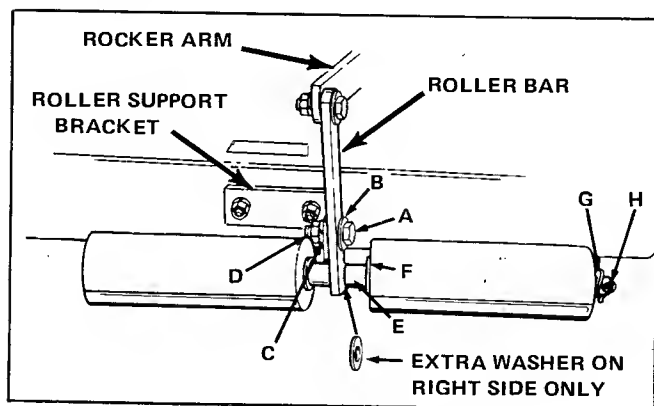

Figure 51. Assembling Rollers
1. To install the outside roller on the right-hand side of the mower, first connect roller bar to roller support bracket (see figure 51). Do this by inserting a shoulder bolt with 7/16 inch plain washer (items A and B) through bar and bracket from the outside of bar.